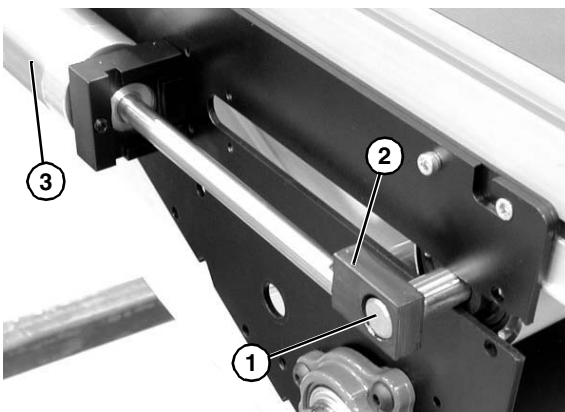

Figure 66
6. Push shaft (**Figure 66, item 1**) through block (**Figure 66, item 2**) on opposite side of center drive, slide block toward air cylinder (**Figure 66, item 3**).